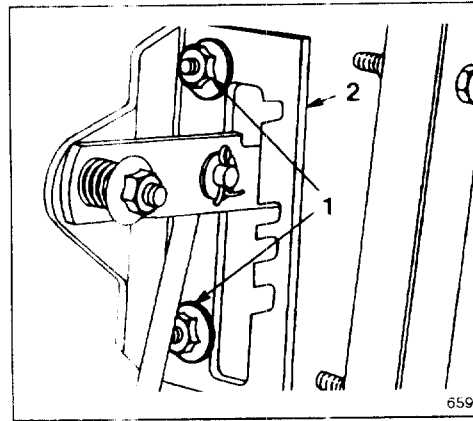
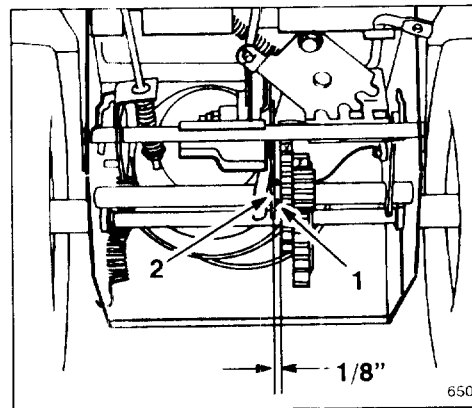

Figure 27
Figure 28
selector plate to move freely for adjustment (Fig. 27).
4. Shift speed selector to third gear and push down on speed selector plate to move drive assembly to the right. Drive assembly should be 1/8" from roll pin; if not, slide selector plate (Fig. 27) until 1/8" dimension is correct (Fig. 28)